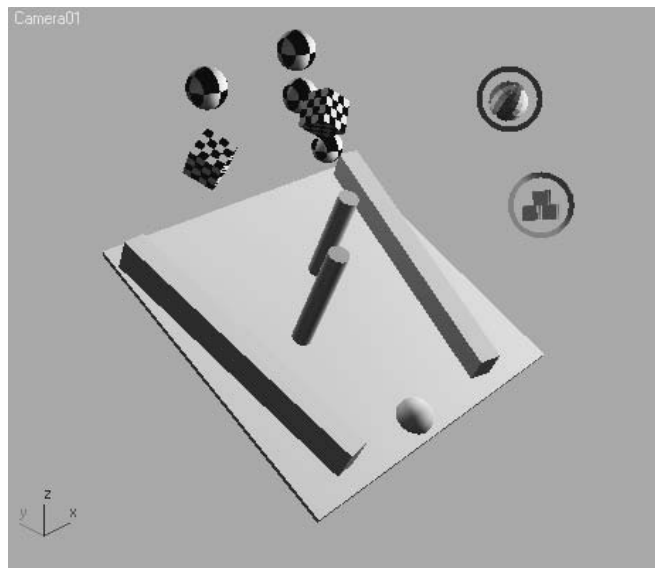

Figure 12.49
- Move the Collection icons away from the scene geometry. Your Perspective viewport should look similar to Figure 12.49.